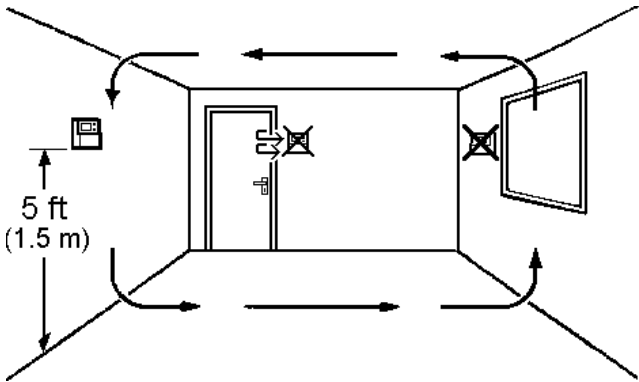

Fig. 2 TP75-RF or TS2 location
- 1. **TP75-RF** Select the desired fixing position. (This should adhere to normal room thermostat practice, see Fig. 2).